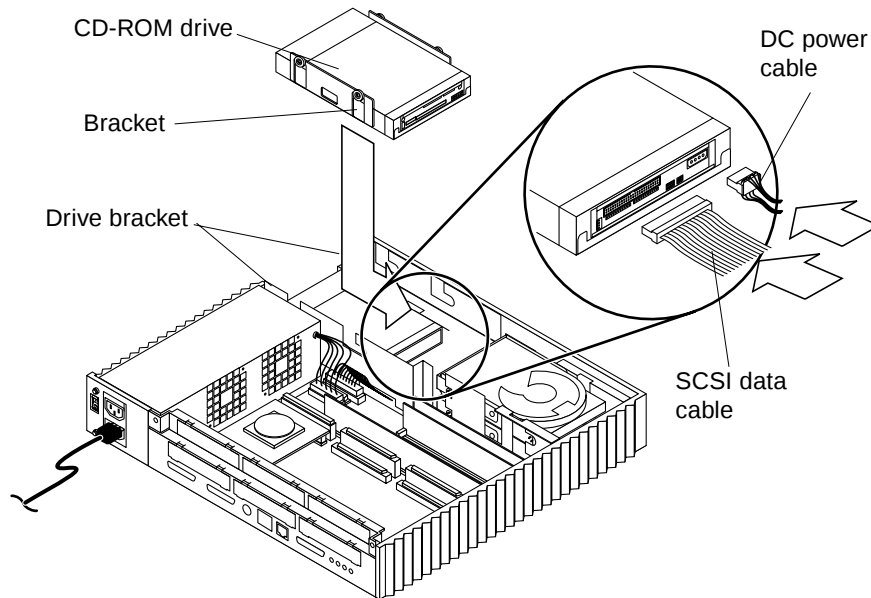

FIGURE 9-8 Installing a CD-ROM Drive
3. Install the CD-ROM drive as follows (FIGURE 9-8):